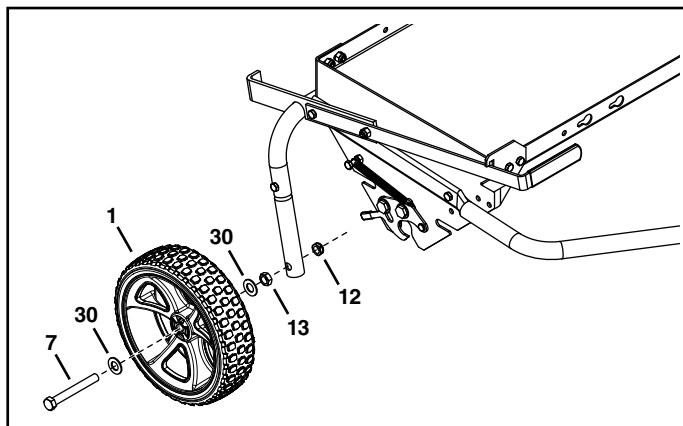

FIGURE 7
14. Attach the wheels (1) to the lift tube assembly using a 1/2 x 4-1/8" hex bolt (7), two 1/2" washers (30), a 1/2" jam nut (13) placed between the wheel and the lift tube assembly and 1/2" a nylock jam nut (12) for each wheel. See figure 7.